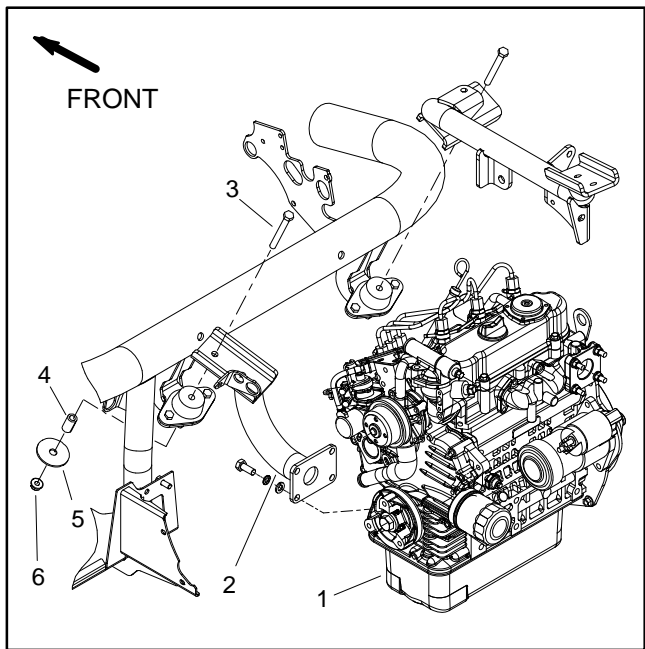

Figure 15
- A. Remove cap screw, spacer, snubbing washer and flange nut that secure engine support to engine mount (Fig. 15).
A. Secure engine support (item 23) to engine mount with removed fasteners (Fig. 15).